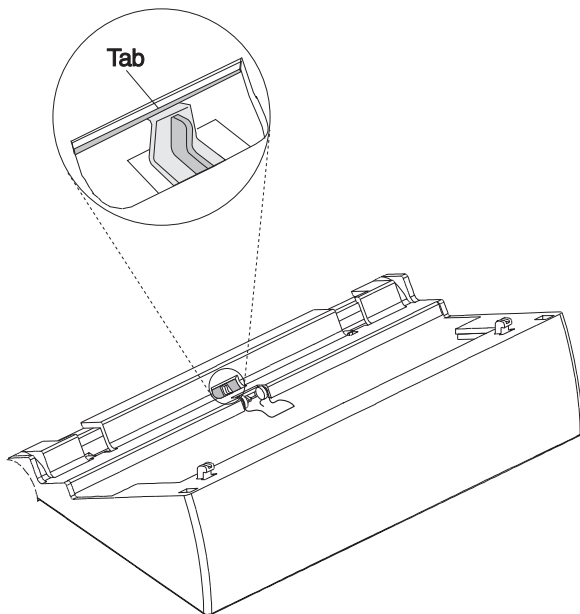

Figure 3-47. Removing the Tablet Latch - Part 1
- 3 Press the tab on the upper wedge as shown in Figure 3-47.